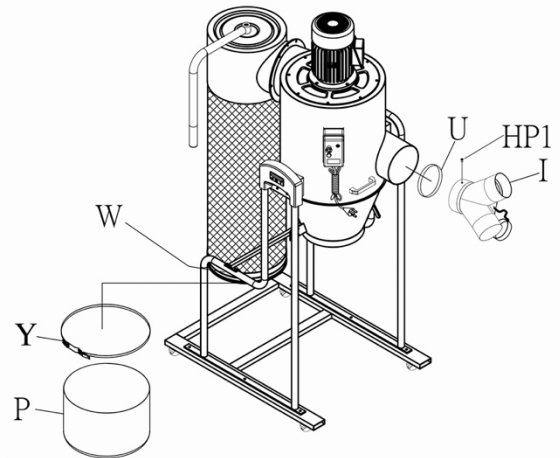

Figure 10
11. Apply foam tape (U) around inlet port near edge. See Figure 10. The foam tape should completely encircle the port.
12. Install inlet adaptor (I) on main housing and secure with pan head screw (HP1).
13. Apply foam tape (W) just above lower lip of canister filter. The foam tape should completely encircle the canister filter.
14. Install collection bag (P) to bottom of canister filter and secure with steel bag clamp (Y). Note: Masking tape can be used to hold bag in position on canister until clamp is secured.